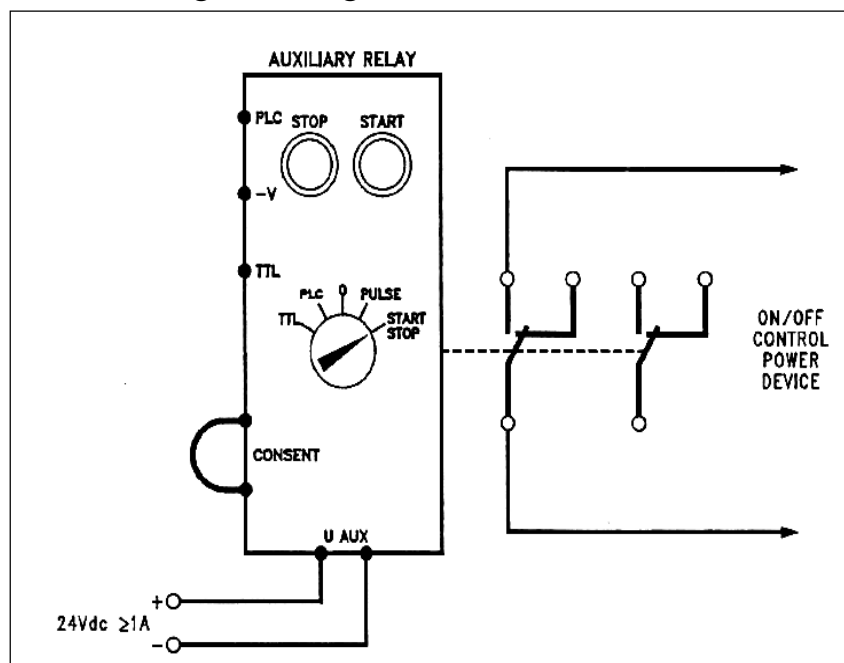

Figure 2.9 Connection diagram to use an auxiliary relay with run-stop function.
1. Follow the electrical diagram of figure 2.9